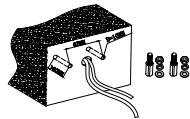

Figure 4-1
4.YOKE MOUNTING (YM)
Step1: Use a tool to punch two 67MM holes on the wall and then insert 2 expansion screws into the holes, Figure 4-1;